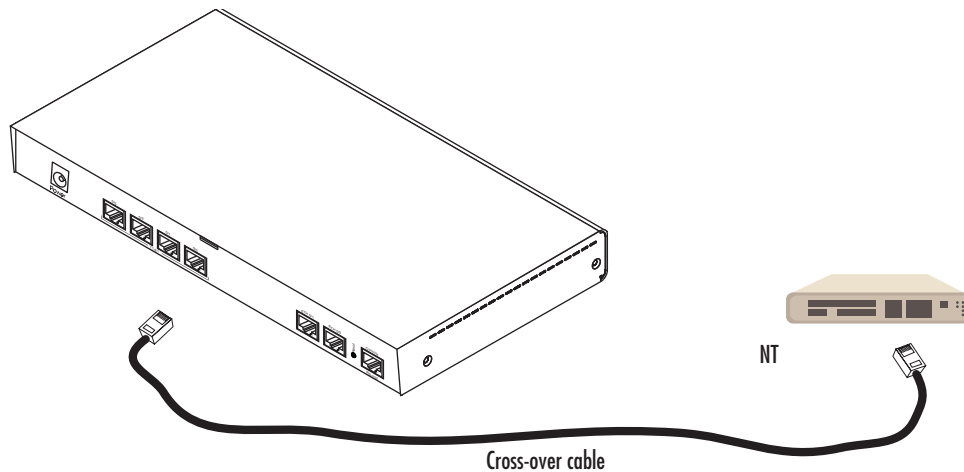

Figure 15. Connecting a T1 PRI port to an NT device
The T1 PRI is usually connected to a PBX or switch—local exchange (LE). Type and pin outs of these devices vary depending on the manufacturer. In most cases, a straight-through RJ-45 to RJ-45 can be used to connect the PRI with a PBX. A cross-over cable is required to connect to an NT device, as illustrated in figure 15 on page 52.